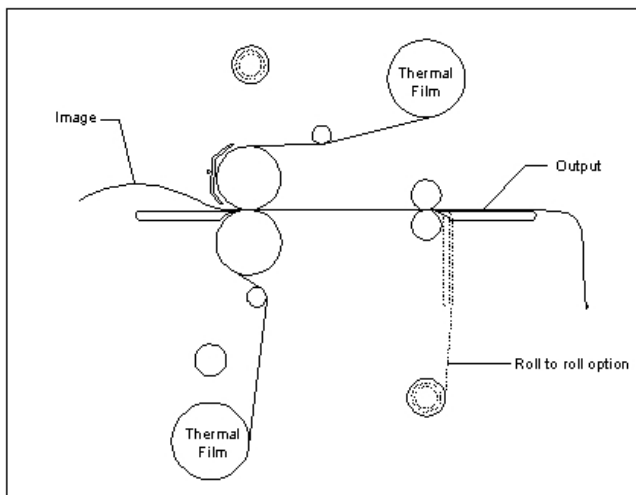

Fig 39
Tips For Thermal Encapsulation (Figure 39)
1. Load the laminator as illustrated in Figure 39. Poly-in film is used for illustration purpose.